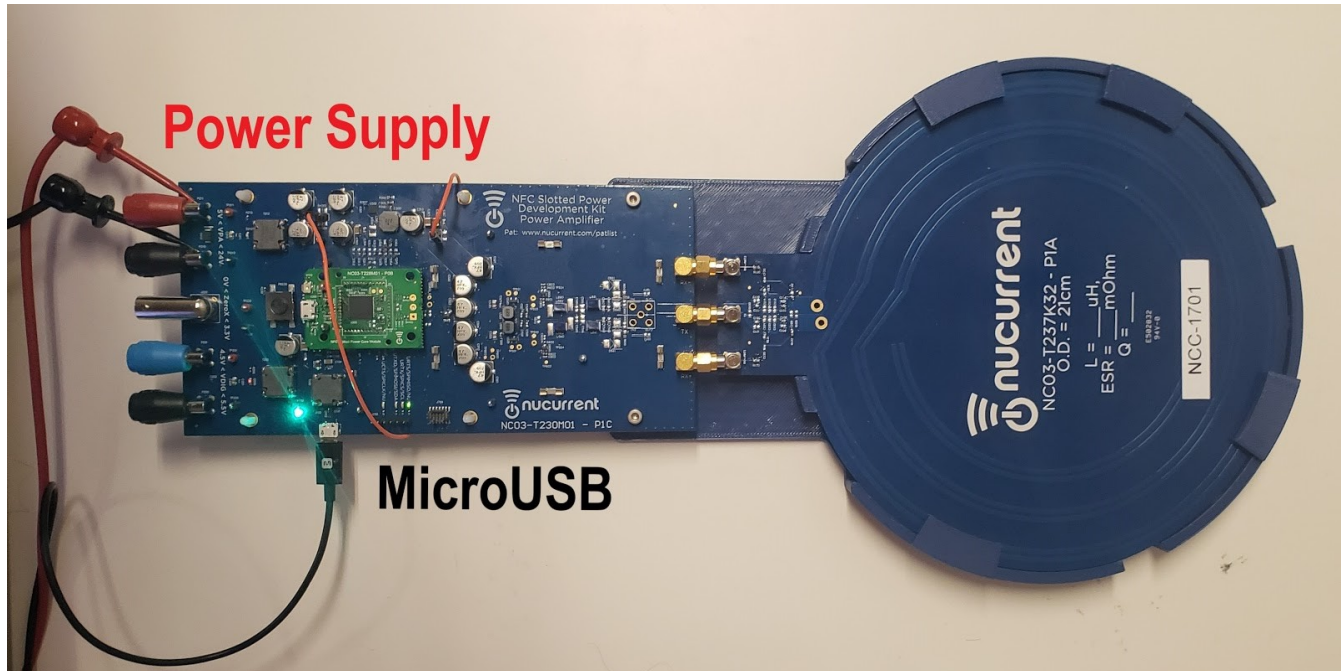

Figure 25: Power Amplifier Setup
- 1) Place your assembled Amplifier module on a flat surface & connect a microUSB cable and power supply to your Amplifier as shown in Figure 25.